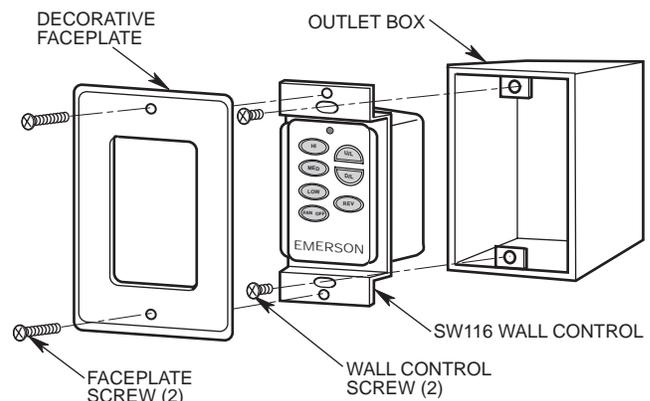

Figure 24
3. Install the wall control onto the outlet box using the supplied screws (Figure 24).
4. Install decorator faceplate (included) using the two screws provided. Leave wall control in "OFF" mode until fan installation is completed (Figure 24).